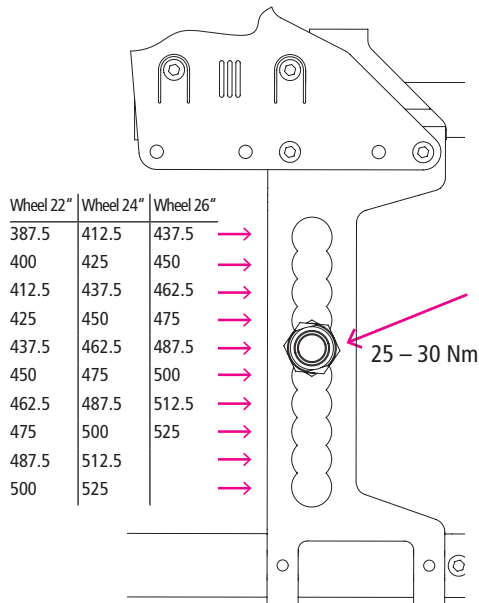

Fig. 47
2. Then reinsert the socket at the desired position in the row of holes (Fig. 47).